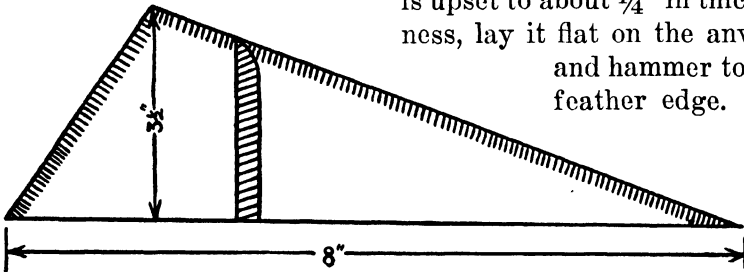

FIG. 80
3. Use an old rasp or a piece of old plowshare for repointing. Heat the piece to a bright red heat, place on the edge of the anvil and forge to approximately the shape and dimensions shown in Fig. 80. Draw the short sides of the point to a feather edge but leave the long side about $\frac{1}{4}$ " thick, as shown by the cross-section on the figure.